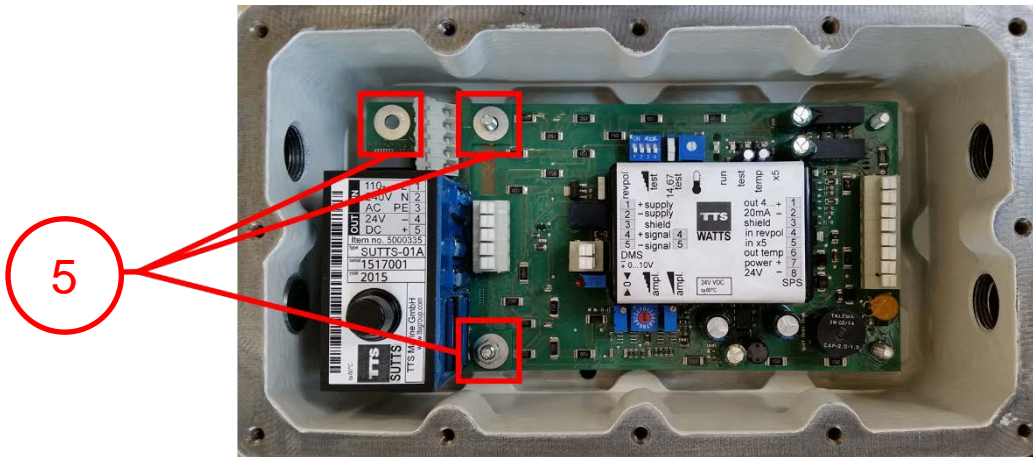

Figure 6
- Now fasten the SUTTS module with the remaining washers and nuts (see detail 5 in figure 6).